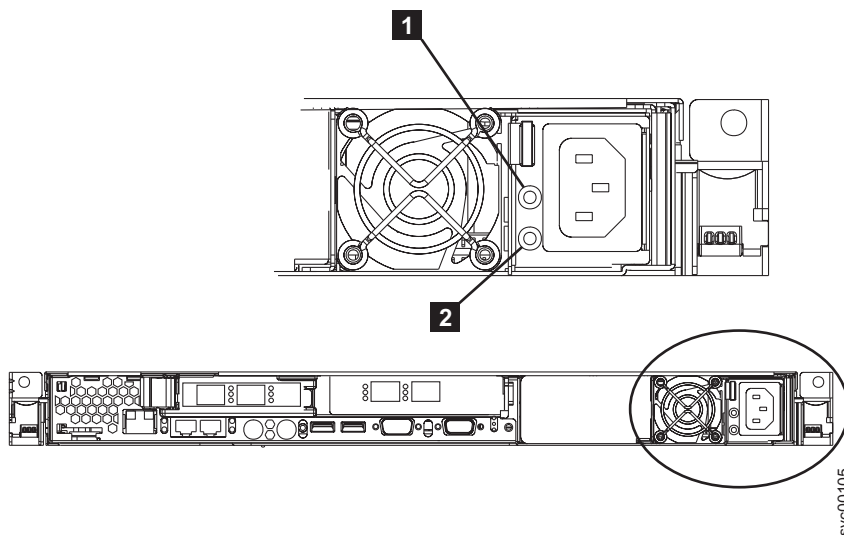

Figure 163. SAN Volume Controller 2145-8F2 or SAN Volume Controller 2145-8F4 ac and dc power LEDs
5. Make sure that the power-supply fan starts and the ac power LED **1** and dc power LED **2** (shown in Figure 163) on the power supply are lit, indicating that the power supply is operating correctly.